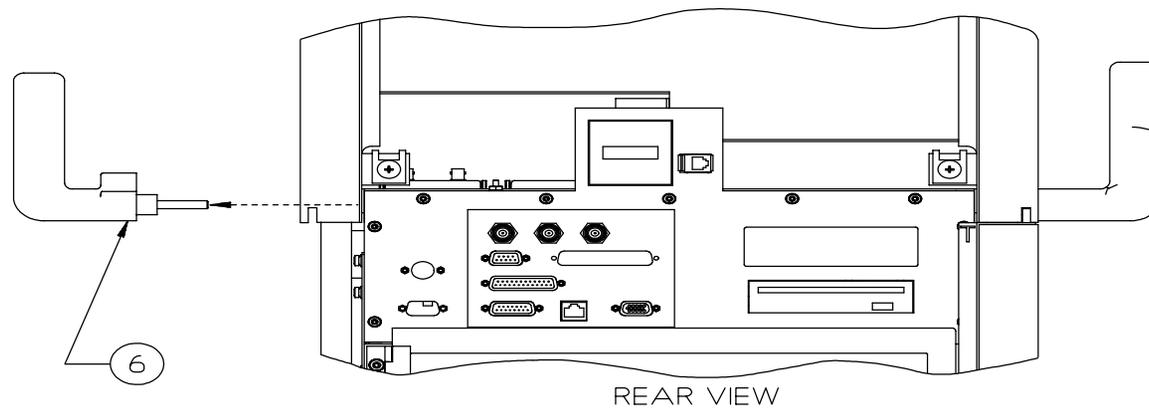

Figure 17
6. Remove the Retention Bracket from the Workstation. See Figure 17.